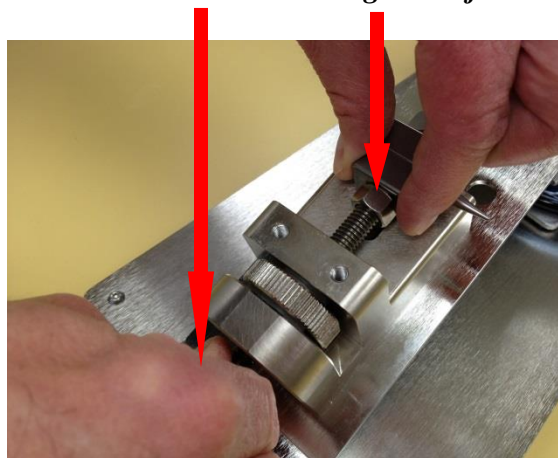

Figure 3.2.6
- Remove the *lock nut* and turn the threaded rod by hand and rotate threaded rod counter clockwise while holding the lower expander jaw until the jaw is removed. *Figure 3.2.6*